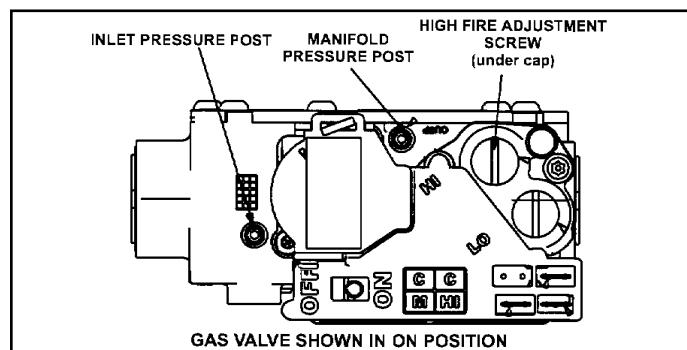

Figure 76.
6. Move gas valve switch to OFF. See Figure 76.
8. Move gas valve switch to ON. See Figure 76.
An inlet pressure post on the inlet side of the gas valve provides access to the supply pressure. See Figure 76. Back out the 3/32 Hex screw one turn, connect a piece of 5/16" tubing and connect to a manometer to measure supply pressure.
1. A manifold pressure post located on the gas valve provides access to the manifold pressure. See Figure 76. Back out the 3/32 Hex screw one turn, connect a piece of 5/16" tubing and connect to a manometer to measure supply pressure.
6. Repeat on high fire and compare to value given in Table 28. If necessary, make adjustments. Figure 76 shows location of high fire and low fire adjustment screws.